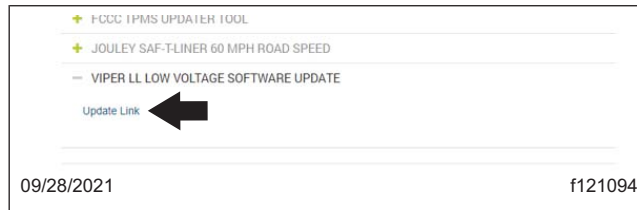

Fig. 4, Viper II Low Voltage Software Update Link
5. Scroll down to 'Viper II Low Voltage Software Update,' then select the '+' symbol. Select 'Update Link.' See **Fig. 4**.